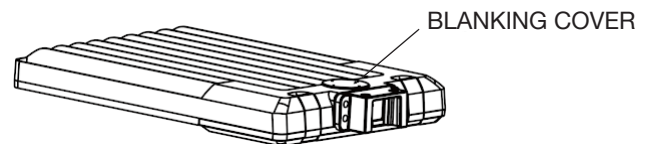

Fig. 1
2. Remove the blanking cover on the back of the fixture. (Fig. 1)